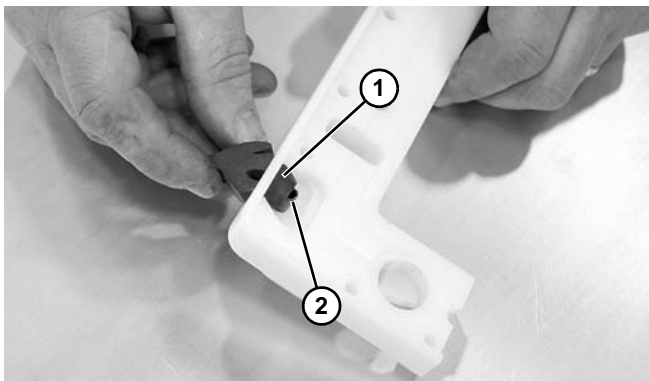

Figure 99
6. Lift bumper (Figure 99, item 1) up and off roll pin (Figure 99, item 2) and remove from corner skirt.